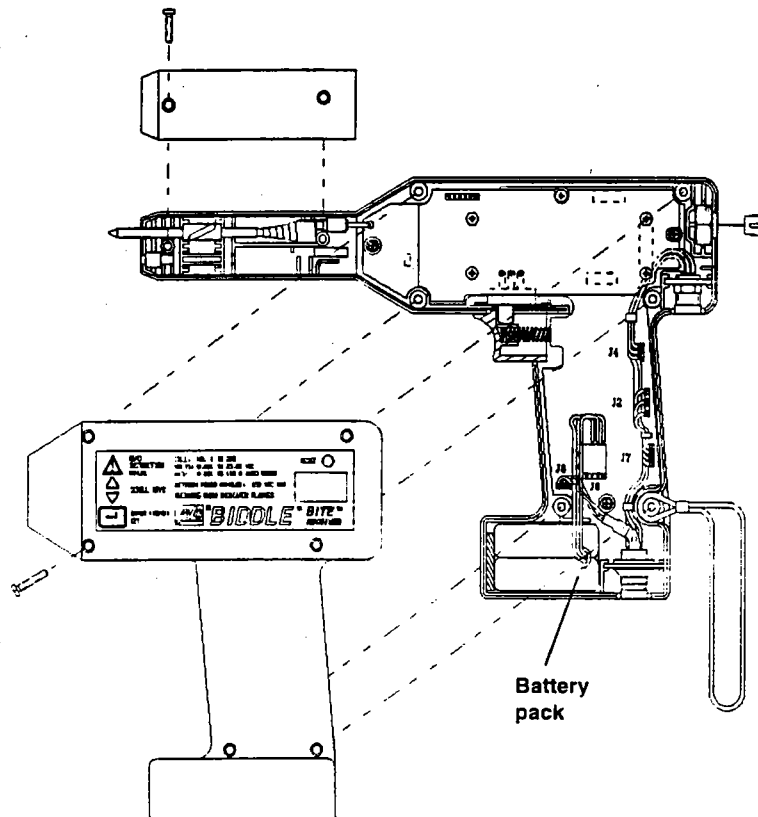

Figure 13: Replacing batteries in the receiver.
- 5. Locate the battery pack at the base of the receiver. Unplug the battery pack from the 5-PIN connector of the receiver printed circuit board. (See Figure 13.)**